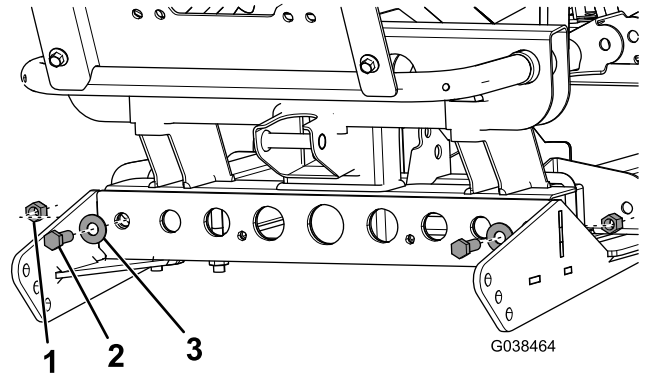

Figure 7
- Loosely secure the front of the skid plate to the vehicle frame using 2 hex-head bolts (3/8 x 1 inch), 2 washers, and 2 locknuts (3/8 inch) as shown in Figure 7.